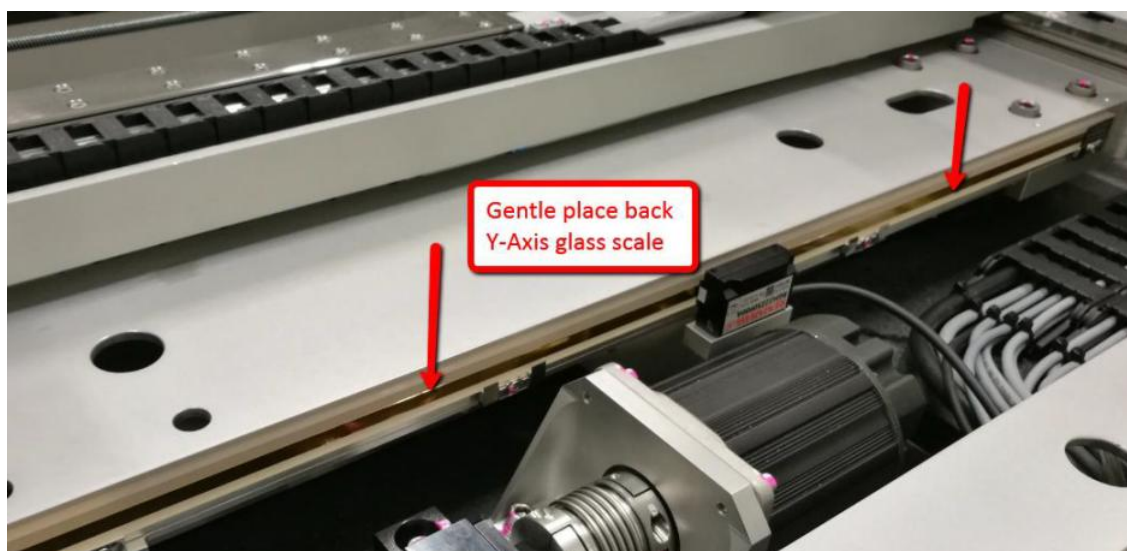

Figure 7 Glass scale replacement
- Gentle assemble new Y-Axis glass scale as shown in Figure 7.